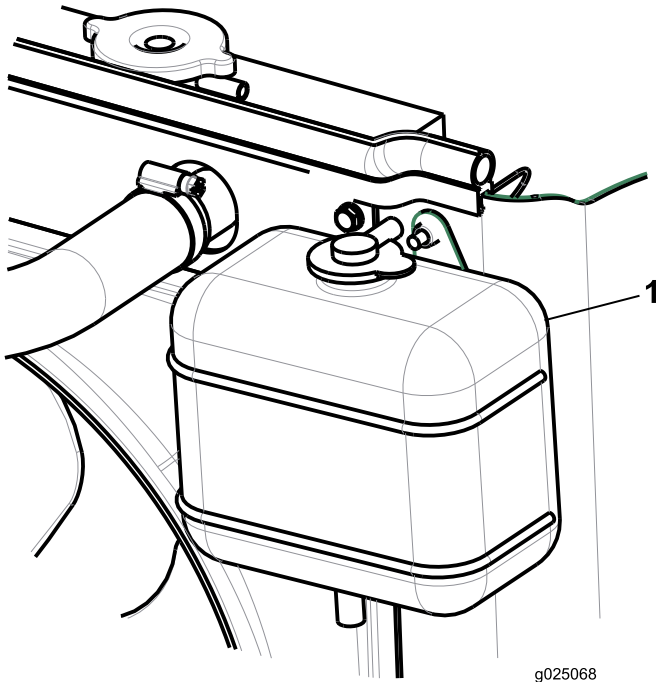

Figure 25
2. Check the level of the coolant in the expansion tank (Figure 25). The coolant level should be between the marks on the side of the tank.